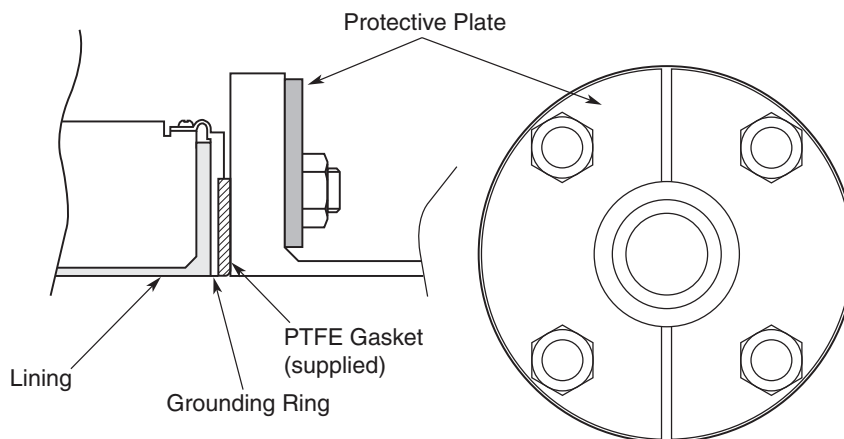

Figure 21. Installation on PVC Pipe with non-316 ss Grounding Ring (with Protective Plate)
2. Use this method to install the flowtube along with a protective plate to prevent PVC pipe from being deformed or damaged when the bolts are tightened to the specified torque. Insert a protective plate between the outer side of the PVC flange and the flowtube as shown in Figure 21. The protective plate protects the PVC pipe from deformation or damage when it is secured to the specified torque. For the appropriate torque, see Table 2.